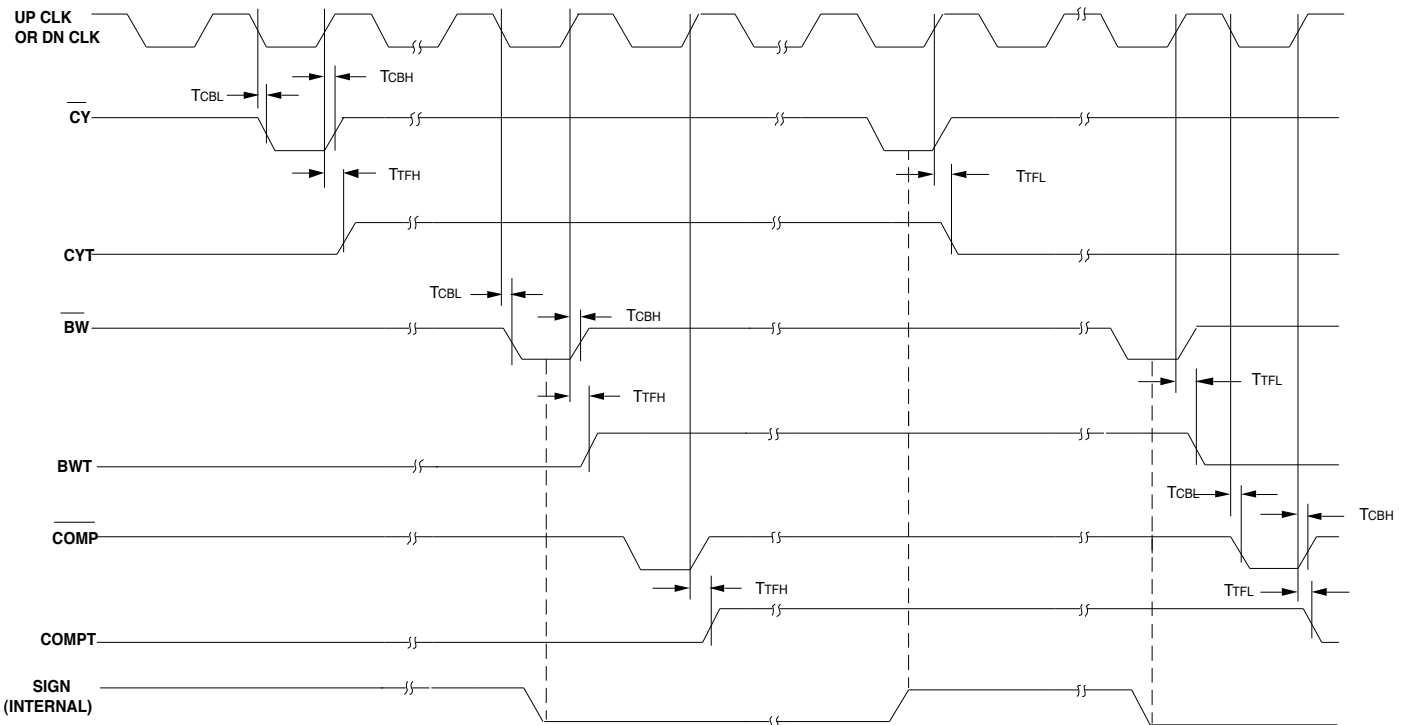

**FIGURE 2 . LOAD COUNTER, UP CLOCK, DOWN CLOCK, COMPARE OUT, CARRY, BORROW**
**TRANSIENT CHARACTERISTICS** (See Timing Diagrams in Fig. 2 thru Fig. 7,